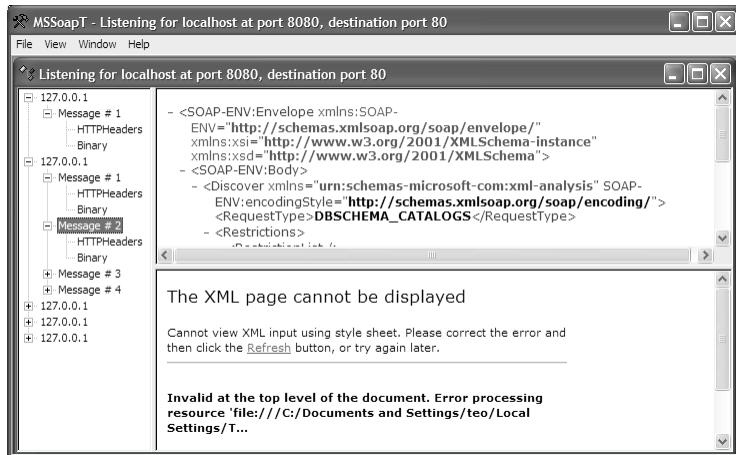

Figure 17.8 The upper right pane of the SOAP Trace utility shows the outgoing request, while the lower pane shows the response from the server.
2. Let the client send XMLA requests to the server. If you use the XMLA Sample Application, you will see several XMLA requests (Figure 17.8) for retrieving UDM metadata immediately after closing the Connect dialog.